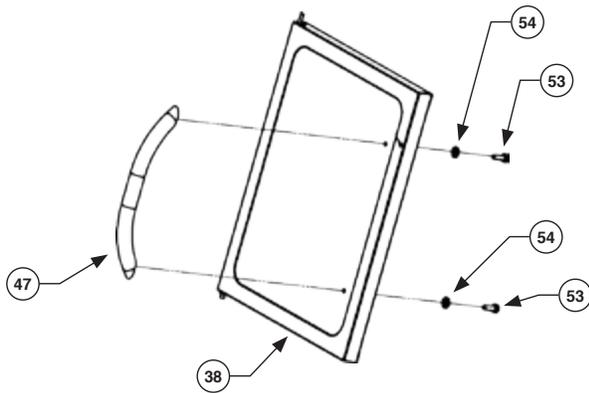
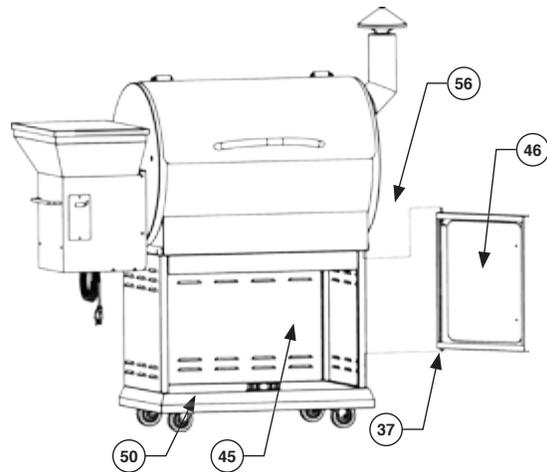

FIG 9
FIG 10
Align the holes in the Left Door (38) with the holes in the Handle (47). Place a (Ø18*Ø6.5*2.0mm) Washer (54) on each ¼-20* ½ Hexagon Bolt (53) and tighten with Wrench. Repeat the former step to assemble the Right Door (46). As shown in FIG 9.
1. Take the Right Door (46) with handle assemble. First insert the Bottom Pivot (37) into the small hole on Platform (50). Then pull down the pivot until the upper end is aligned with top edge of the door. Then align the pivot with the upper hole and pull up the pivot secure the door.
2. Repeat Step 1 to secure the Left Door (38). Make a proper adjustment until the doors can be firmly closed. As shown in FIG10.